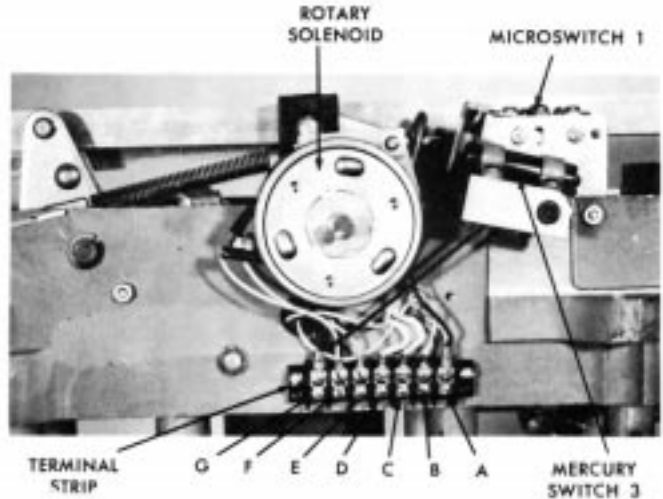

Figure 17
5. Disconnect the seven leads connected to the lower terminal strip of the terminal block attached to the recloser frame, figure 17. Be sure to label these seven leads corresponding to the terminals from which they are disconnected. Terminals are lettered A through G. *right to left.*
Refer to figures 17, 24, 25, 26, 27, and 30 for identification of microswitch 1, mercury switches 2 and 3, rotary solenoid, trip solenoid, bushing current transformers, terminal strip, and the configuration of pinsockets of the control-cable receptacle on the head casting. The components are checked out under the three following conditions: